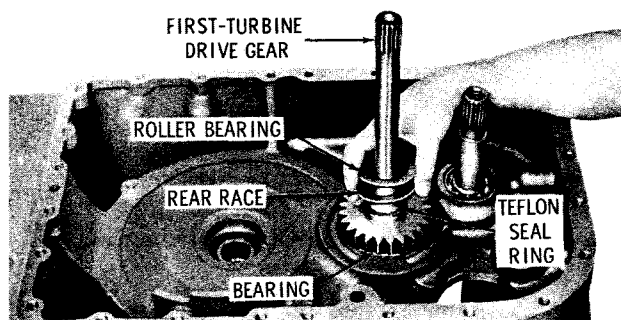

Fig. 7-31. Installing first-turbine drive gear components
(2) Install the first-turbine drive gear and bearing (as assembled in paragraph 6-10) as a unit (fig. 7-31). Install the step-joint sealing into the groove in the drive gear hub. Use oil-soluble grease to retain the sealing in its groove. Install the rear thrust bearing race (flat) and the needle roller bearing onto the drive gear.